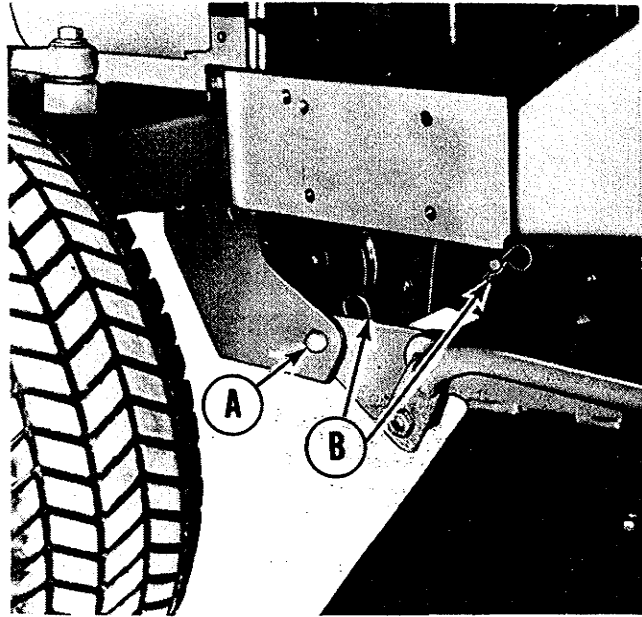

Figure 6. Mower mounted to hitch for center mounted attachments.
raise the mower slightly. As the mower is raised, it can be positioned so the front hitch members fit into the hitch assembly as shown in figure 6.
7. See figure 6. Use two pins (A) and spring clips (B) to fasten the mower to the hitch assembly.
4. See figure 6. Raise the mower slightly to a position where the mower is balanced from the center lift cables. Stop the engine and remove the spring clips (B) and pins (A).